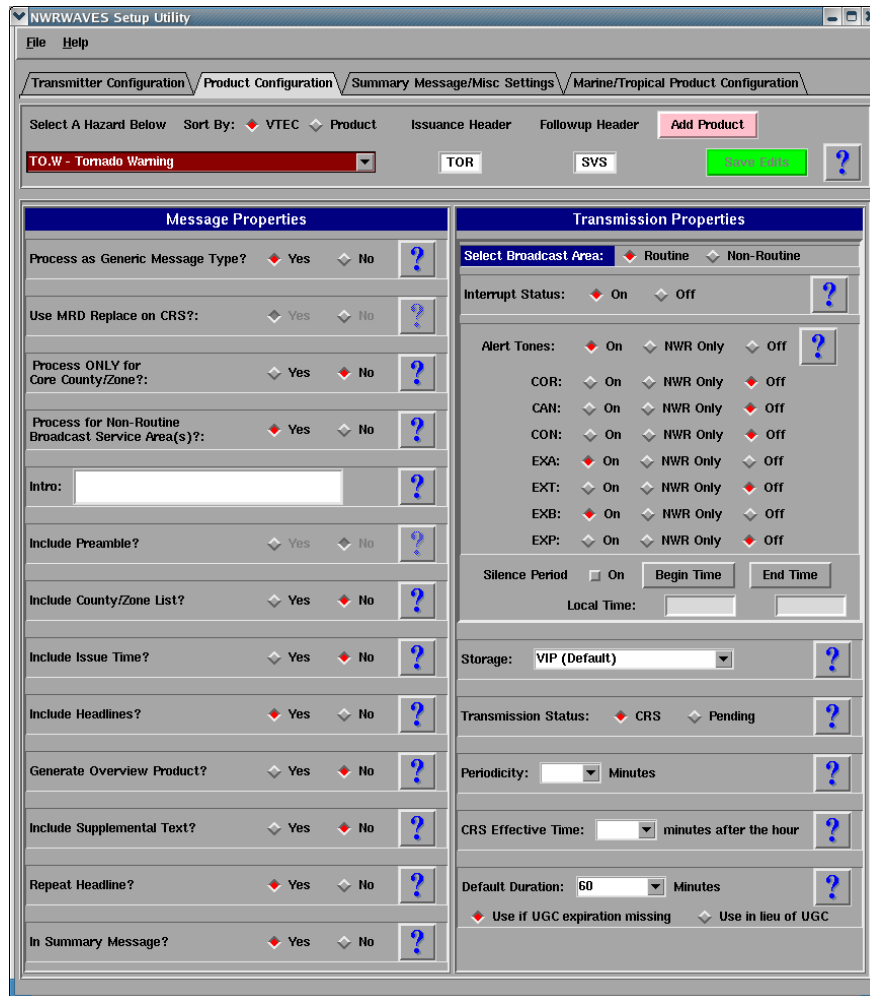

Figure 4 – Product configuration GUI
After you are done configuring your transmitters, click the **Product Configuration** tab (Figure 4)
Both product types (VTEC and non-VTEC) share many common configuration settings. VTEC products have additional unique configuration settings for alert tone settings, based on the VTEC action code. VTEC products are also tracked internally by NWRWAVES, and the advanced feature of MRD Replace is used to facilitate better automation of information replacement in the CRS Broadcast Cycle. **In the NWRWAVES distribution file, all these configuration settings are set to “No” and the product dissemination is set to the “Pending” side of the NWRWAVES Browser (as they are shown in Figure 4 above).** Sites will need to adjust these settings *by product* to meet their local needs.
- 3) Each configuration item on the GUI has a question mark box to its right. Click on that question mark box to see more information on what that particular item governs. Referencing Figure 4 above, here is a breakdown of the interface: